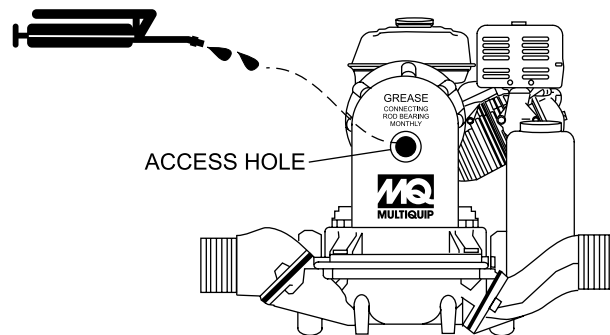

Figure 8. Connecting Rod Bearing Lubrication
1. Grease connecting rod bearing thru the access hole (Figure 8) every 25 hours of operation.